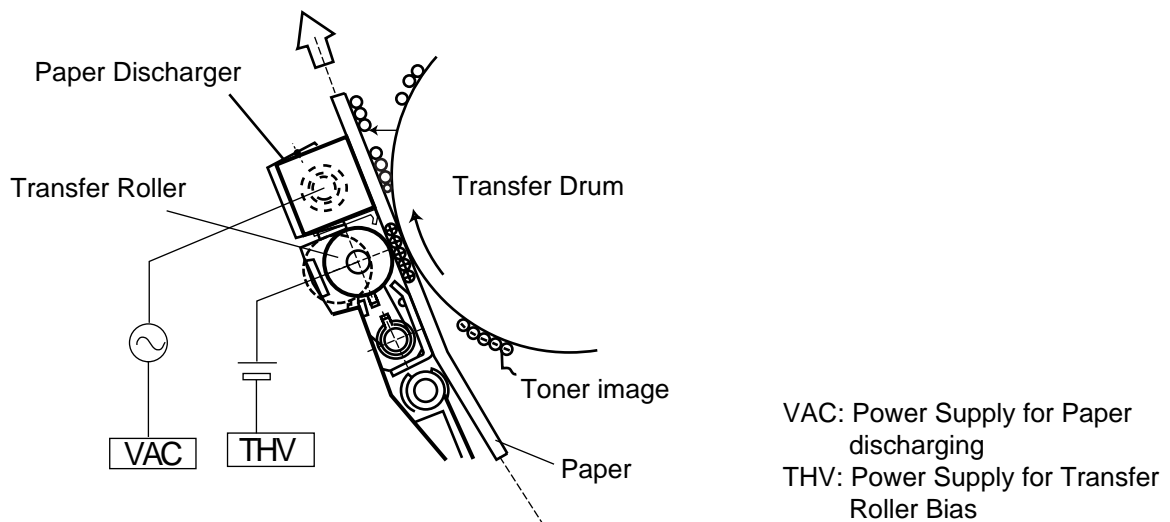

Fig.4-21
(2) Second Transfer Process (Refer to Fig.4-21.)